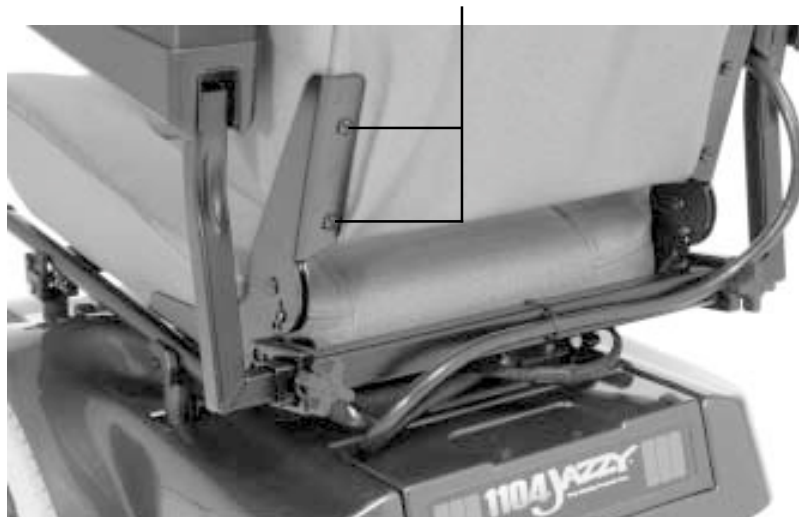

Figure 8. Seat Back Assembly
1. Line up the hinges with the holes in the seat back. See figure 8.